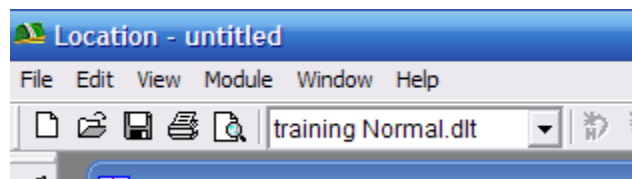

Figure 9.3: The Screen Layout drop-down in the standard tool bar.
2. Use the *Screen Layout* drop-down in the standard tool bar (Figure 9.3 above) to open **training Profile.dlt**. This will set up your screen to look like the figure below.